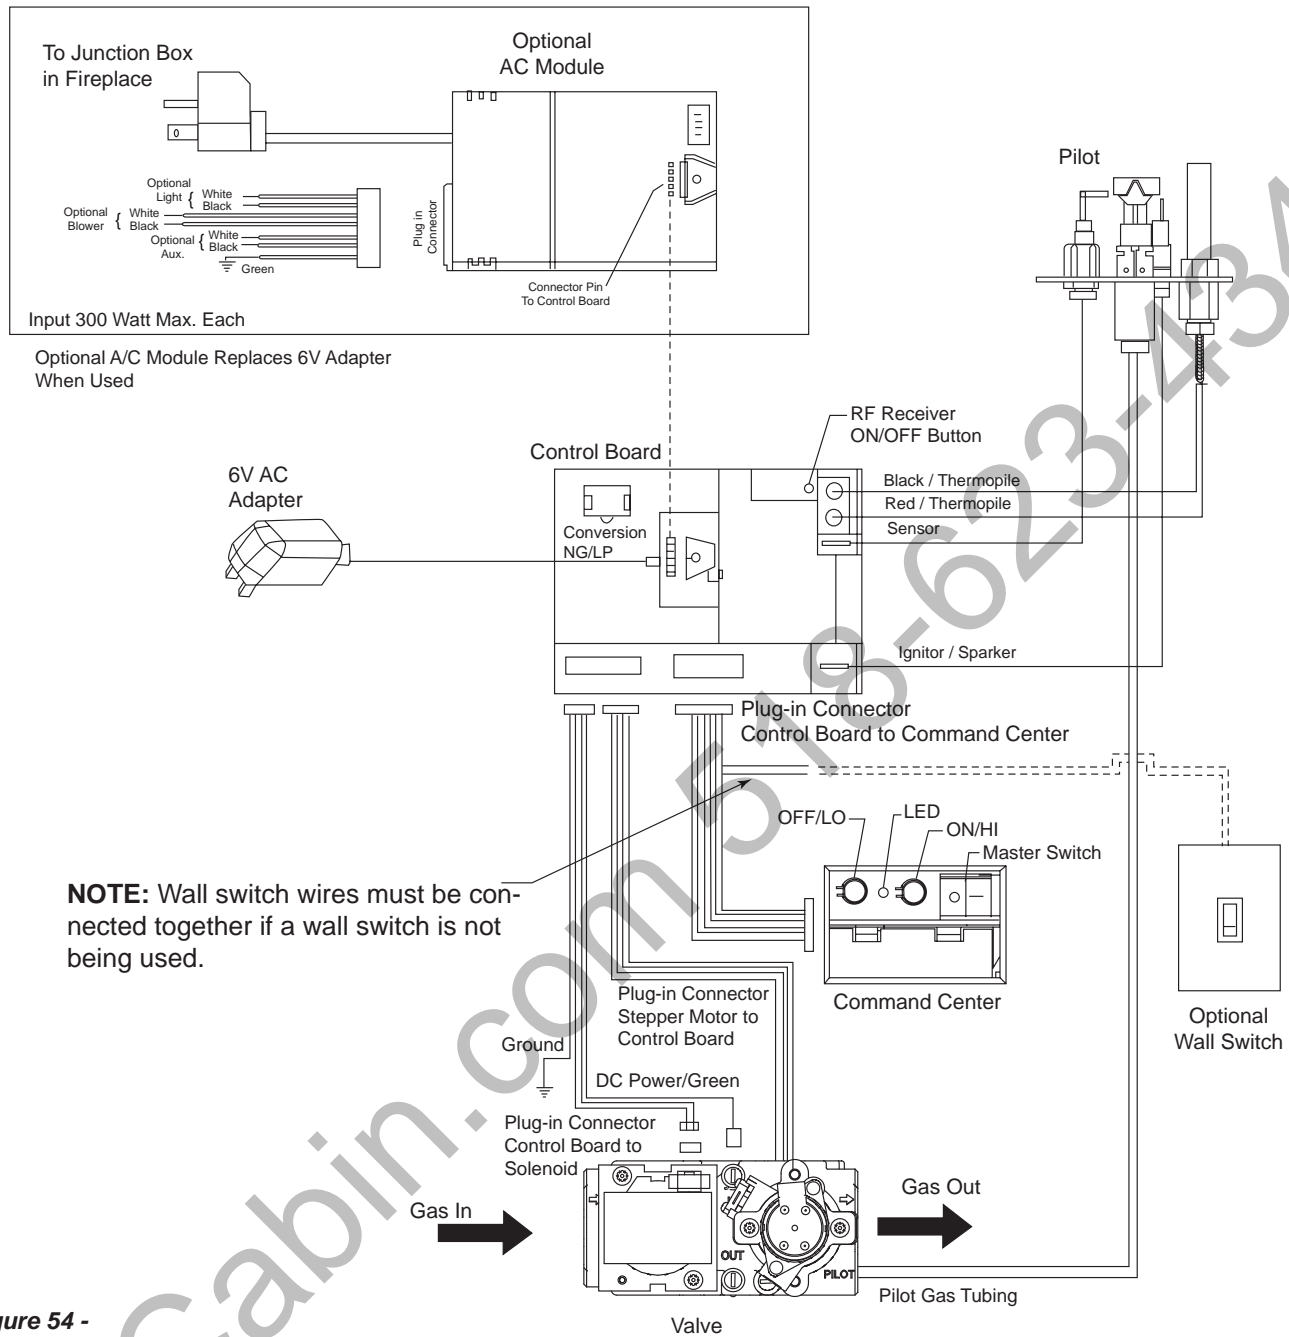

Figure 54 - Signature Command Wiring Diagram
The wall switch wire connection is located off the 2 ft. wire harness from the control box to the command center. *Figure 54*. The connection is labeled "Wall Switch". Unplug the male and female connectors and connect the two (2) low voltage wires provided. Run wire to desired location on wall. Up to 50 ft. of 18 ga. wire may be used if necessary. Attach wires to wall switch. Mount the wall switch in to junction box and screw on cover.